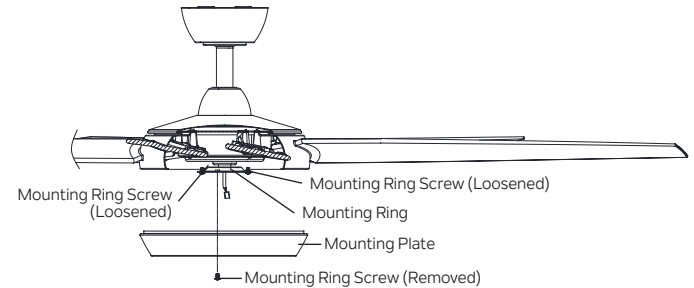

Fig. 16
Step 1. Loosen two of the mounting ring screws on the mounting ring attached to the motor shaft, and remove and save the third mounting ring screw. (Fig. 16)
Step 2. Place the key holes in the mounting plate over the 2 mounting ring screws that were loosened on the mounting ring, and turn mounting plate (clockwise) until it locks in place against the mounting ring screws at the narrow sections of the key holes. (Fig. 16)
Replace the third mounting ring screw that was previously removed, and tighten all 3 mounting ring screws to secure. (Fig. 16)